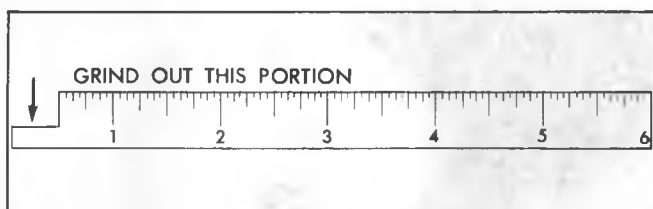
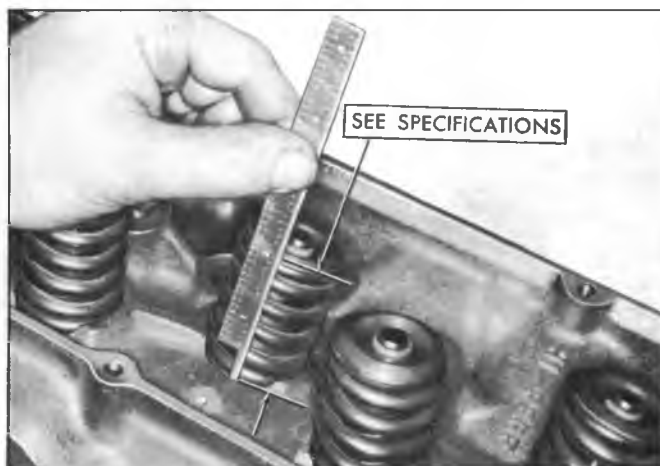

Fig. 28--Cutaway Scale
Fig. 29--Measuring Valve Spring Installed Height
5. Check the installed height of the valve springs, using a narrow thin scale. A cutaway scale will help (fig. 28). Measure from the top of the shim or the spring seat to the top of the valve spring or valve spring shield (fig. 29). If this is found to exceed the specified height, install a valve spring seat shim approximately 1/16" thick. At no time should the spring be shimmed to give an installed height under the minimum specified.